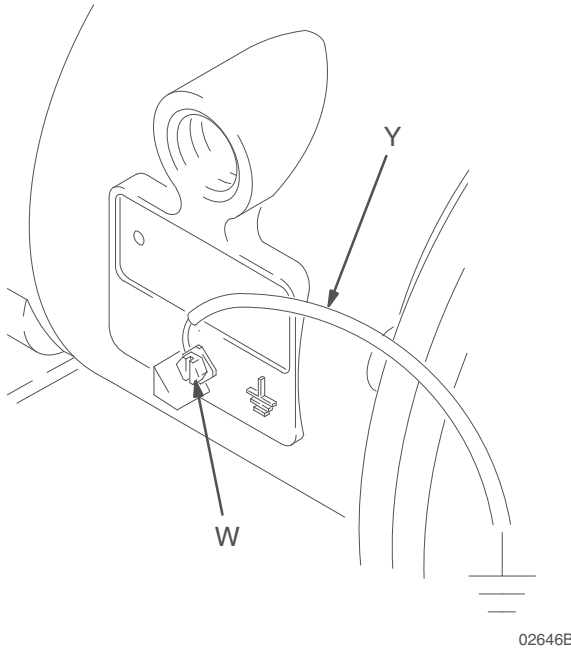

FIG. 1
- *Pump:* Connect a ground wire and clamp as shown in FIG. 1. Loosen the grounding screw (W). Insert one end of a 12 ga (1.5 mm2) minimum ground wire (Y) behind the grounding screw and tighten the screw securely. Connect the clamp end of the ground wire to